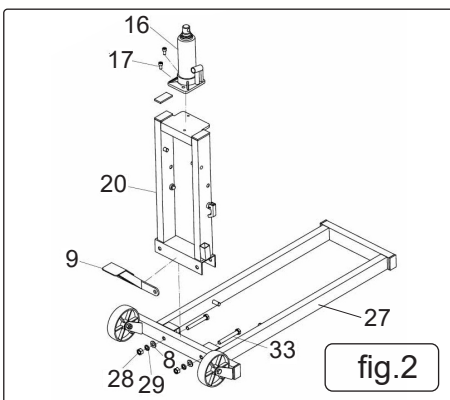

fig.2
- 4.1.1. Place Steel Base Frame (27) flat on a horizontal surface. Place the Upright Frame (Lower) (20) and the Foot Pedal (9) onto the wheeled end of the Steel Base Frame (27) align the bolt holes. (See fig.2).
- 4.1.2. Secure the Upright Frame (Lower) (20) to the Steel Base Frame (27) using Hex Head Bolt (33), Flat Washer (8), Spring Washer (28), and Steel Nut (29). (See fig.2).
- 4.1.3. Place Bottle Jack (16) on the top of upright Frame (Lower) (20) align the holes. Secure in place using Socket Cap Bolt (17). (See fig.2).
- 4.1.6. Attach the Lift Rotating Frame (22) onto Rotating Frame (Upper) (12) to the Upright Frame (Lower) (20). Secure in place using Flat Washer (8) and Small R-Clip (9). (See fig.2 and 4).